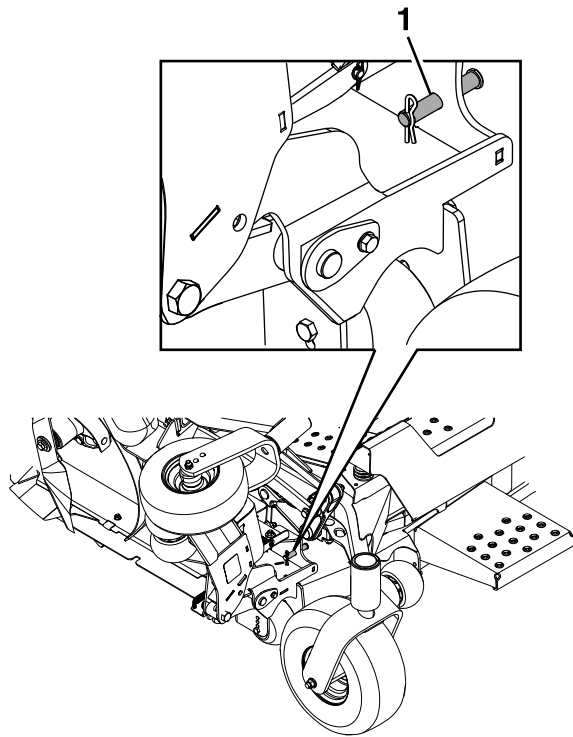

Figure 18
1. Remove the clevis pin and hairpin that secures each wing in the up position. Place them in the storage position shown in Figure 18.